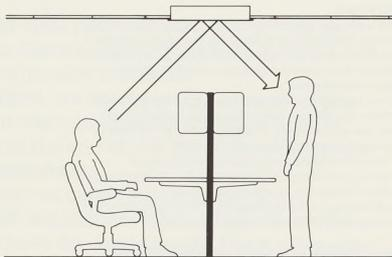

figure 3
- The placement of lighting fixtures in the ceiling is also very important. An improperly placed fixture can cause high sound reflection into adjacent workstations. (See figure 3). For this reason, do not position light fixtures directly over panels between workstations. Instead, locate lights in a more central position over a workstation.